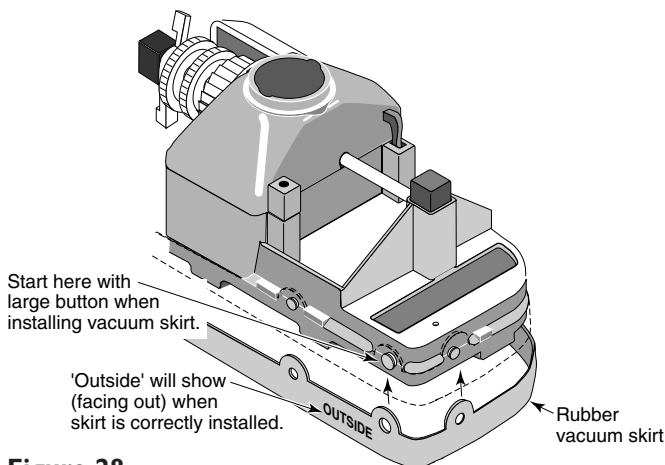
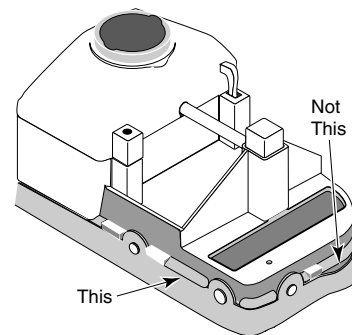

Figure 28
Figure 29
6. Install the rubber vacuum skirt on the cleaner with the word 'OUTSIDE' showing. Start at the large pin on the back of the cleaner head (see Figure 28) and work around the cleaner. Make sure the skirt is flush against the stop strips on the cleaner head (see Figure 29).